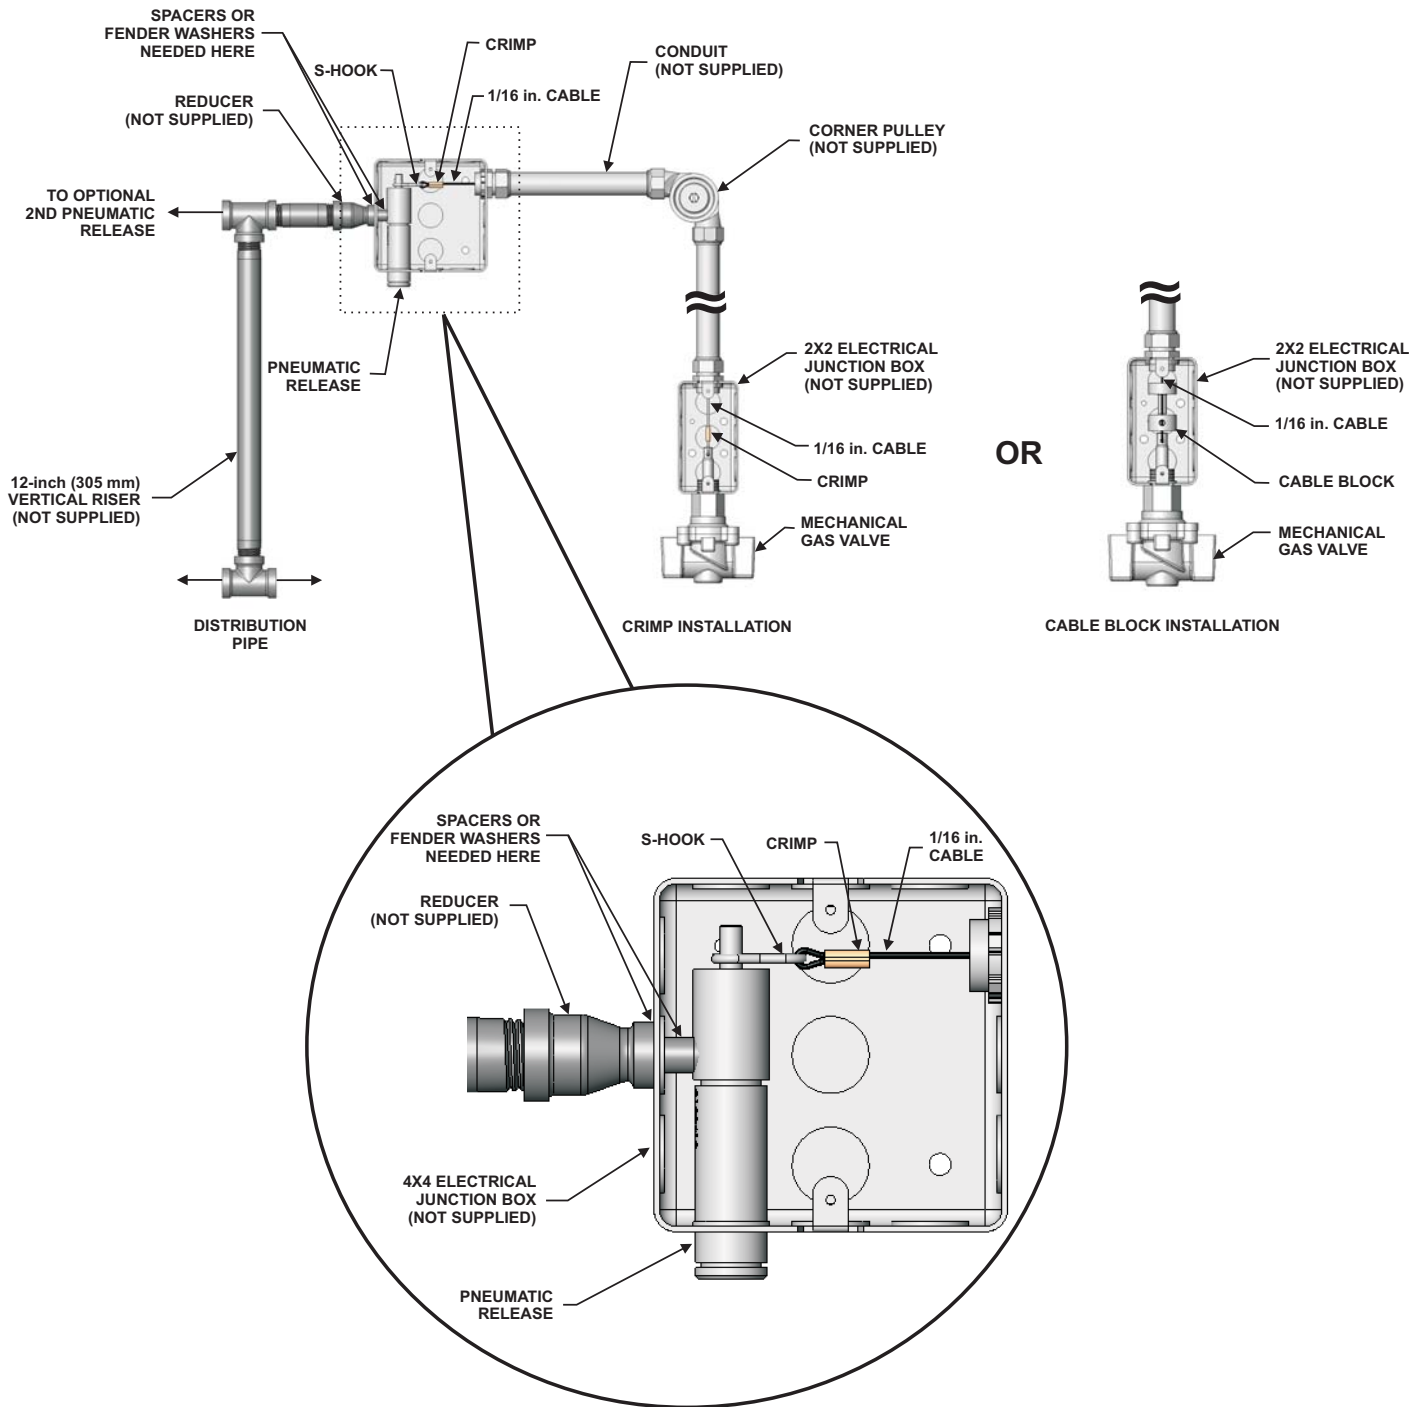

Figure 4-72. Example of a Pneumatic Release Installation
3. Remove three (3) knockouts from a 4x4 electrical box as illustrated in Figure 4-72.
7. Place the pneumatic release through the center knockout of the 4x4 electrical box as shown in Figure 4-72. The 1-1/2-inch x 1/4-inch NPT nipple should extend outside the electrical box.
10. Attach the vertical riser, tee, and piping to the reducer and tighten. Refer to Figure 4-72.
18. Adjust the length of the cable so that the gas valve is in the fully opened position when the "S" hook is placed on the piston rod of the Pneumatic Release. Secure the cable with a crimp or cable block. Refer to Figure 4-72.